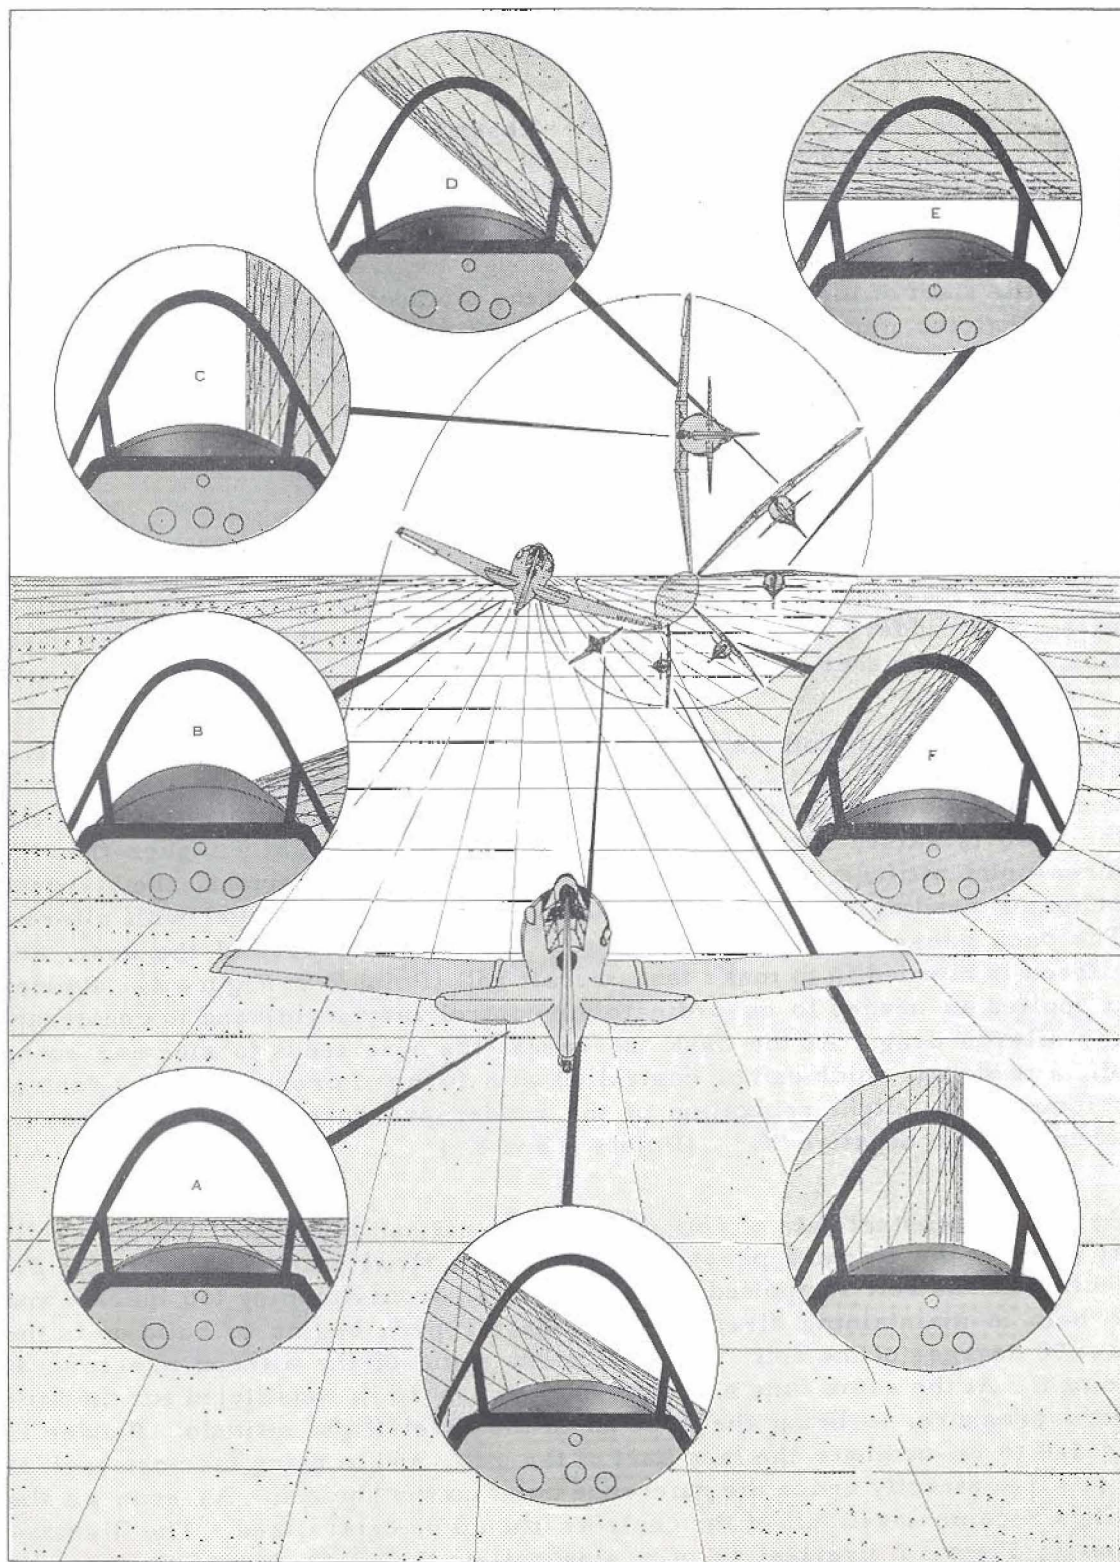

Figure 2: The Slow Roll
(1) A slow roll is an aerobatic manoeuvre in which the aircraft, controlled by the ailerons, is rolled through 360 degrees around its longitudinal axis. The rudders and elevators are used to maintain the desired nose position, the nose describing an ellipse on the horizon in the direction of roll.
(2) The slow roll is started by diving the aircraft through the last clearing turn. (Figure 2 overleaf) As the airspeed approaches 140K, a reference point on the horizon directly above the nose is used for direction, and the nose is raised through this point to a position slightly higher than the three-point attitude. As the nose passes through the horizon, the airspeed indicator reading should be 140K. The wings are kept level with aileron. The back pressure is released to stop the upward travel of the nose, and aileron is blended in to make the aircraft roll (Point B in Figure 2). Rudder is applied as needed to co-ordinate the control movements and to counteract any aileron drag. As the bank increases, the nose tends to sink and swing off, a tendency which can be controlled with forward pressure on the control column and a slight relaxation of the rudder pressure (C). Care must be taken to avoid negative "G". (Points D and E.)
(3) A constant rate of roll must be maintained throughout the slow roll. At point F the forward pressure is released slowly, and rudder in the direction of the roll is applied to keep the nose from dropping too quickly and to help in maintaining direction. As the airspeed begins to build up in the last 90 degrees of the roll, you must relax some of the aileron pressure at point H. At the same time a smooth back pressure is substituted for the forward pressure, to bring the nose up to the level-flight attitude. Rudder is needed to co-ordinate the last part of the roll, and to bring the nose back to a position directly under the reference point on the horizon. As soon as the wings become level, all of the controls should be centralized. The illustration in Figure 2 overleaf is of a slow roll to the right, but of course, you must practise rolls in both directions.